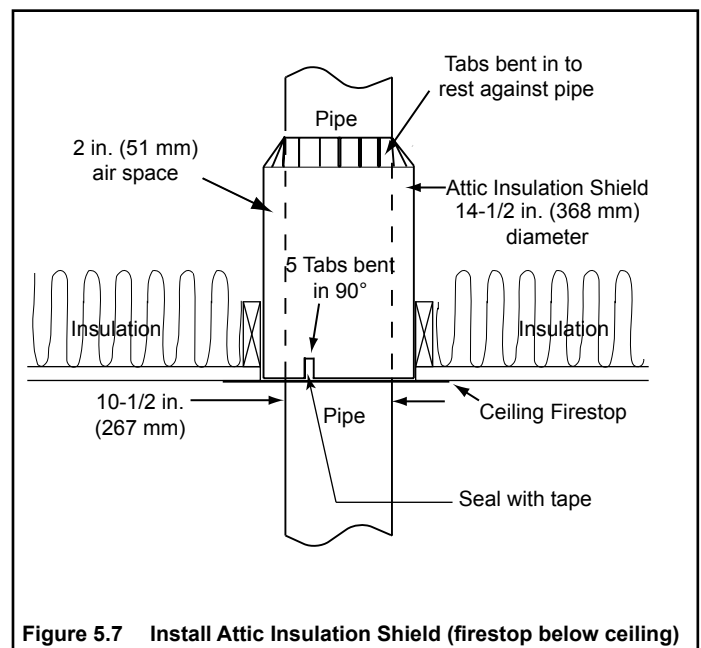

Figure 5.7 Install Attic Insulation Shield (firestop below ceiling)
- Mark and cut an opening in ceiling as shown in Figure 5.7.